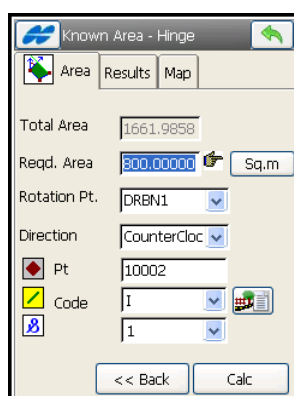

Figure 10-14. Known Area - Hinge – Area Tab 2
2. In the second screen under *Area* tab, select the known rotation point from the list, the direction of rotation, the known requested area, and the name and code of the resulting point (Figure 10-14).